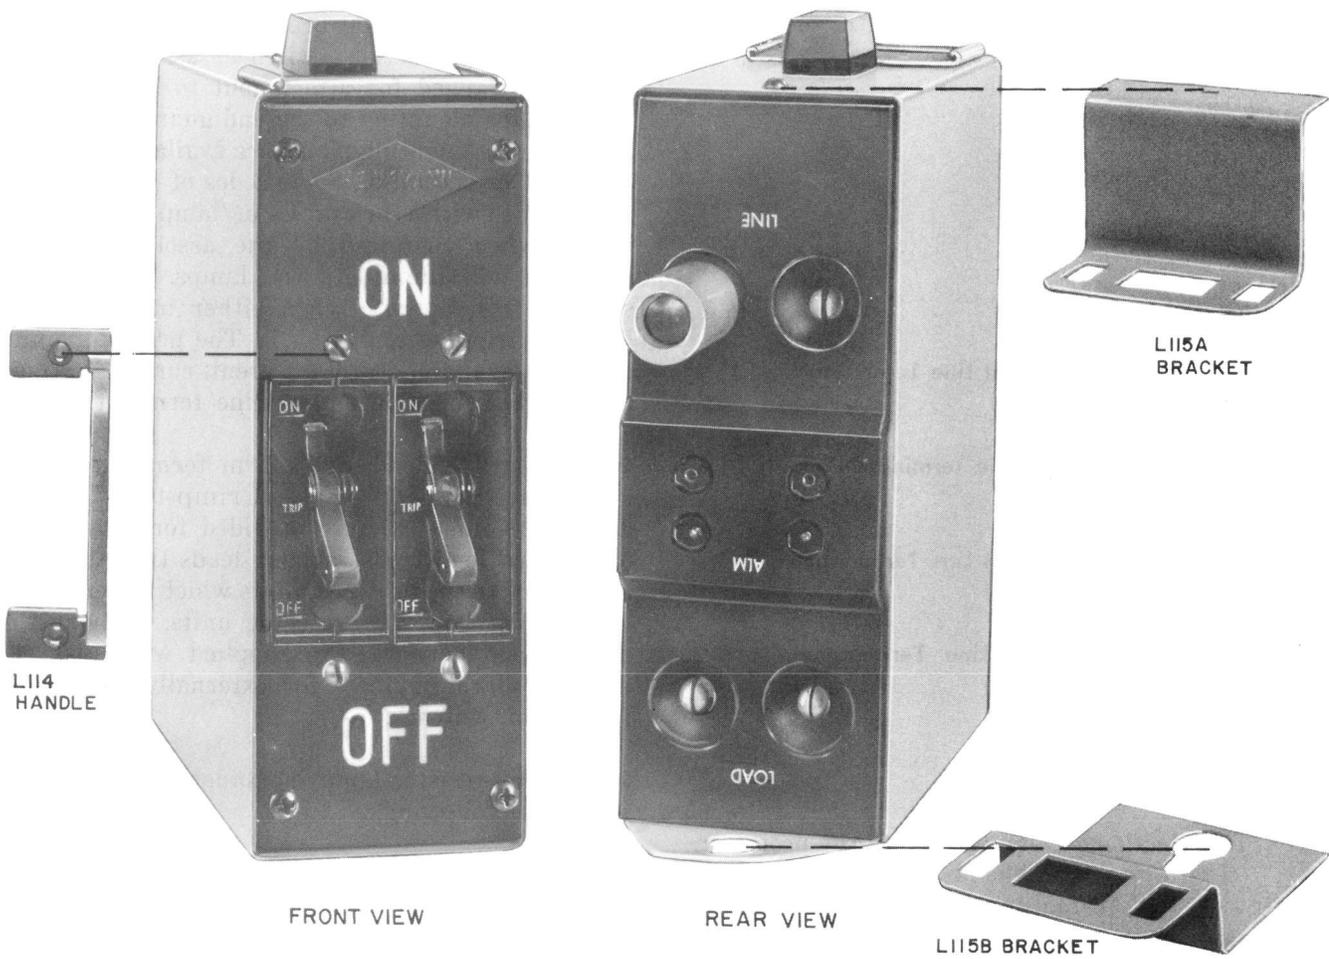

Fig. 1—KS-21413 Protector
2.01 The KS-21413 protector unit (Fig. 1) consists of two circuit breakers equipped with single-pole snap-action switches, assembled in a housing arranged for attachment to a steel plate designed for mounting to the end guard of a frame aisle lineup. Mounting plates are available to mount one, four, or six units. Some codes of the protector are provided with a series resistor/lamp combination, which, when energized by the associated alarm switches, will illuminate the lamps. The alarm switches will operate when either of the circuit breakers trip due to overload. The protector units are also available with different current ratings and common or independent line termination.